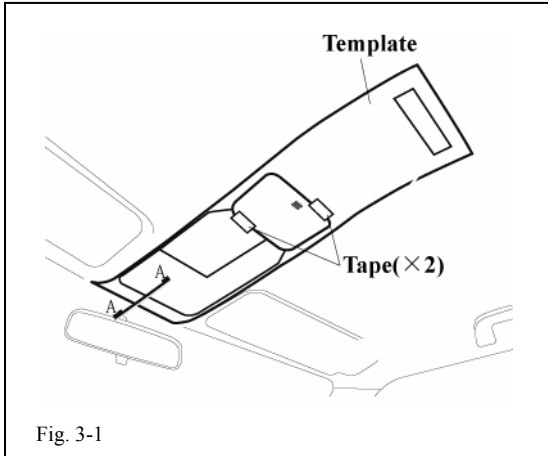

Fig. 3-1
- (b) Align long edges of the template with contours of roof headlining, centering template between contours. Use centering tabs on template to position template over map light cutout. Once the template is aligned and centered, tape in the positions indicated in Fig. 3-1.